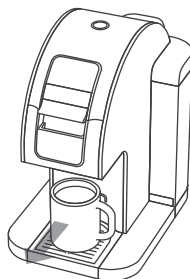

Fig. 11
7. Enjoy your cup of coffee, tea or hot cocoa! (Fig. 11)